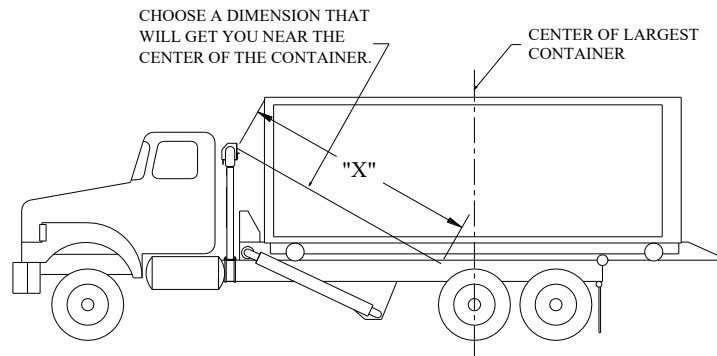

Figure 1
1) With the tower in the lowest position, take a measurement from where the tarp will enter the housing to a point that is slightly before the middle of the container and make a mark. REMEMBER THAT MEASUREMENT. Refer to Fig. 1 below.